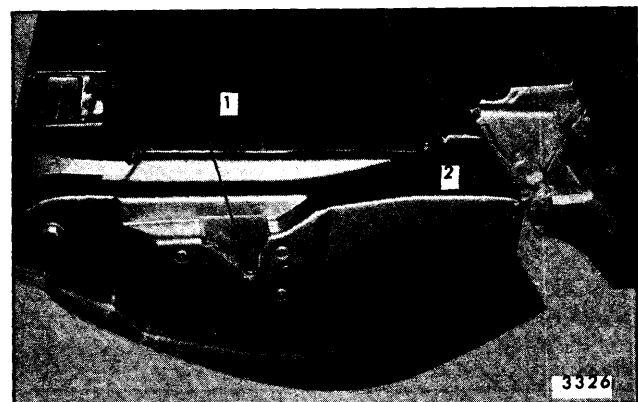
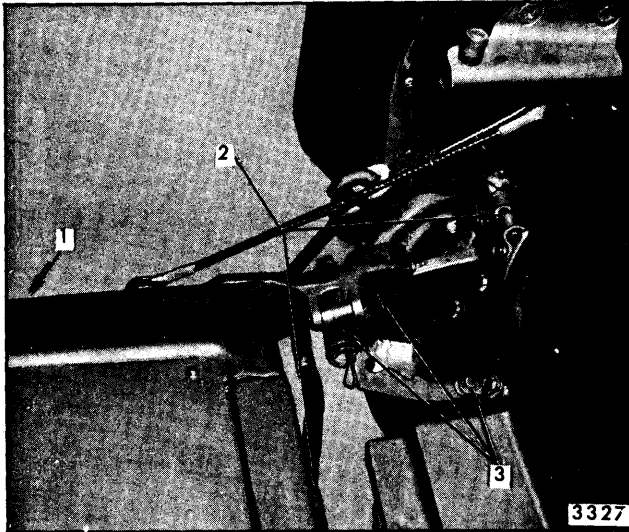

Fig. 2-11—Dual Acting Tailgate Lubrication - Right Side
Fig. 2-12—Dual Acting Tailgate Lubrication - Left Side
2. Apply a thin coat of grease stick lubricant (Doorease or equivalent) to the areas indicated by Point 1, Figure 2-11 (Right Side Shown, and Figure 2-12 Left Side Similar).
lube "A", Part No. 1050520 or equivalent) to contact surfaces of the torque rod to torque rod retainer (on bottom of tailgate), torque rod to torque rod assist link, and torque rod assist link to assist link retainer (on back body pillar), as indicated by Point 2, Figure 2-12.
- b. With dual-acting tailgate in gate position, apply a low temperature lubricant (dripless oil or equivalent) sparingly through the two oil holes provided, and onto the pivot pin for the hold-open feature on the left hinge assembly (Point 3, Figure 2-12, and apply a coating of wheel bearing lubricant or equivalent to the striker pin (Point 2, Figure 2-11 on the right hinge assembly).